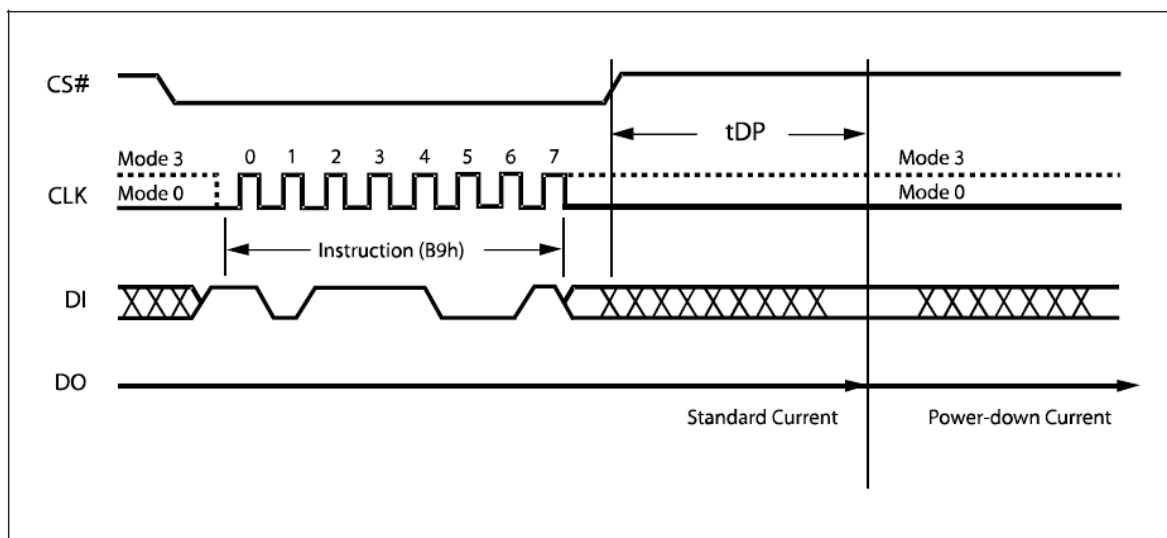

Figure 24. Deep Power-down Instruction Sequence Diagram
The instruction sequence is shown in Figure 24. Chip Select (CS#) must be driven High after the eighth bit of the instruction code has been latched in, otherwise the Deep Power-down (DP) instruction is not executed. As soon as Chip Select (CS#) is driven High, it requires a delay of t_{DP} before the supply current is reduced to I_{CC2} and the Deep Power-down mode is entered.